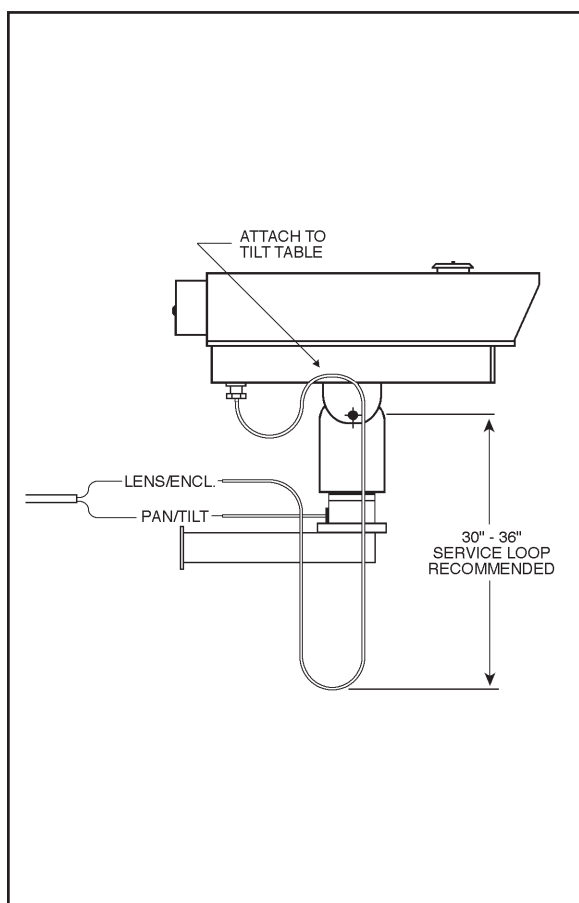

Figure 5. EH66 Enclosure with Pan/Tilt and Wall Mount
7. Make all necessary electrical connections. Be sure to leave an adequate loop of cables between the enclosure and the pan/tilt, and the enclosure and the rigid mount to prevent binding and/or strain on the cables (see Figures 5 and 6).